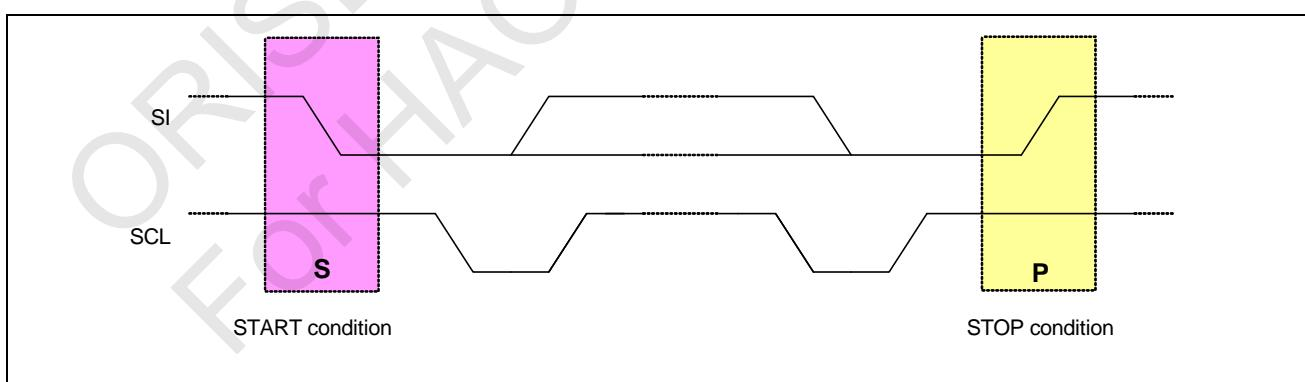

Figure 5-6 START and STOP conditions on I2C I/F
The START condition (S) is a HIGH to LOW transition on SI wire when SCL at HIGH period. A LOW to HIGH transition on SI wire at the SCL is HIGH that is defined as the STOP condition (P) (see Figure 5-6). When the I2C bus is not busy, both SI and SCL are to keep HIGH.